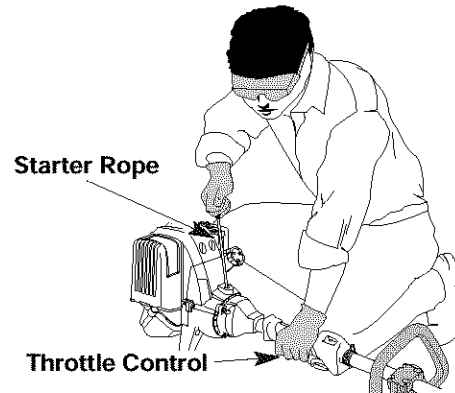

Fig. 9
7. With the unit in the starting position (Fig. 9) pull the starter rope briskly 5 times in the **FULL choke (A) |←|** position. If the engine attempts to run before the fifth pull, proceed to step 8.
5. With the unit in the starting position (Fig. 9), pull the starter rope briskly until the engine starts.
6. When the engine starts, move the choke lever to the **RUN (C)** position, and run at full throttle for 30 seconds.
1. Release your hand from the throttle control (Fig. 9). Allow the engine to idle.